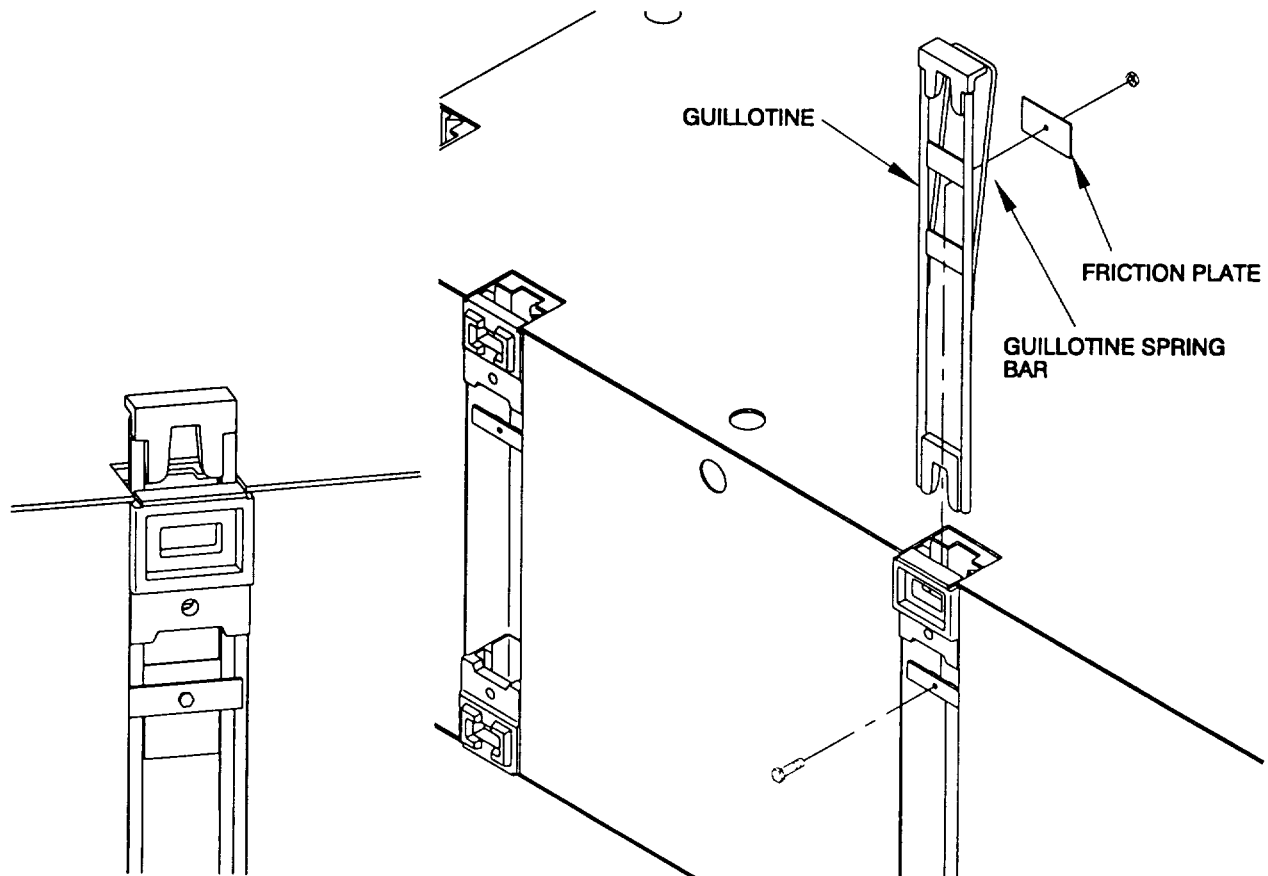

Figure 2-30. Female Connector Assembly.
**2-7.3 Female Connector Assembly.** The Female Connector Assembly (Figure 2-30) receives the Male Connector Pin, and when locked, forms a positive mechanical interlock. It also opens the connection by raising the female connector pin. The female lock assembly is made of the following components: